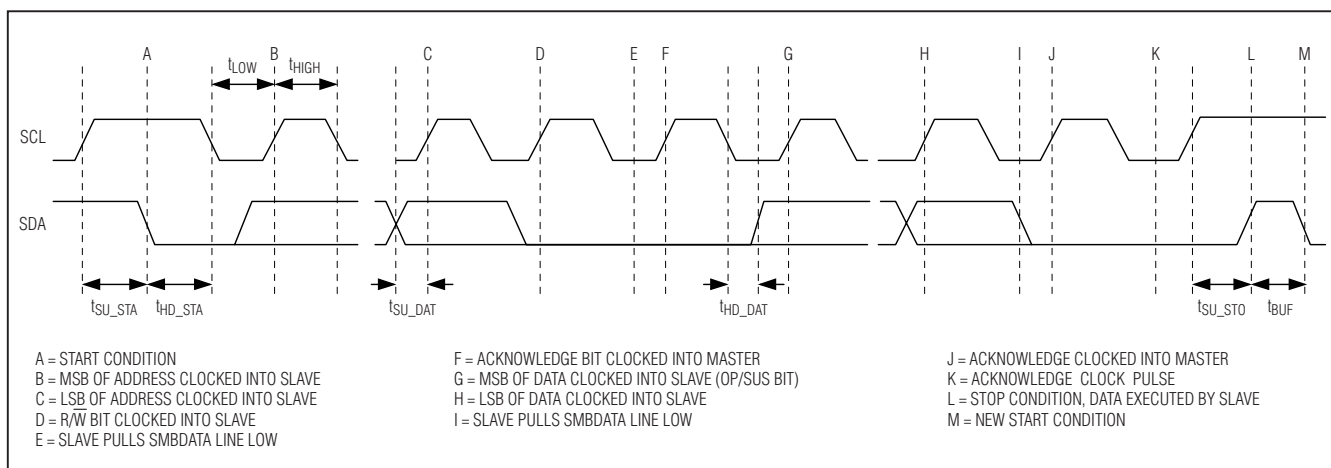

Figure 2. I2C Timing Diagram
The I2C serial interface consists of a serial-data line (SDA) and a serial-clock line (SCL). Standard I2C write-byte commands are used. Figure 2 shows a timing diagram for the I2C protocol. The MAX8830 is a slave-only device, relying upon a master to generate a clock signal. The master (typically a microprocessor) initiates data transfer on the bus and generates SCL to permit data transfer. A master device communicates to the MAX8830 by transmitting the proper 8-bit address (0x94) followed by the 8-bit control byte. Each 8-bit control byte consists of a command code (usually 3-bits) with the remaining bits (usually 5 bits) as data (see Table 1). Each transmit sequence is framed by a START (A) condition and a STOP (L) condition. Each word transmitted over the bus is 8 bits long and is always followed by an acknowledge clock pulse.